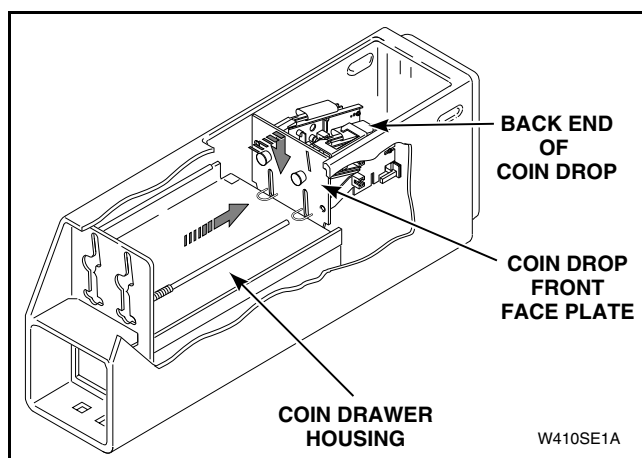

Figure 13
- Lift back end of coin drop and pull straight back until bottom edge of the drop's front face plate falls behind the coin drawer housing. Refer to *Figure 13*.